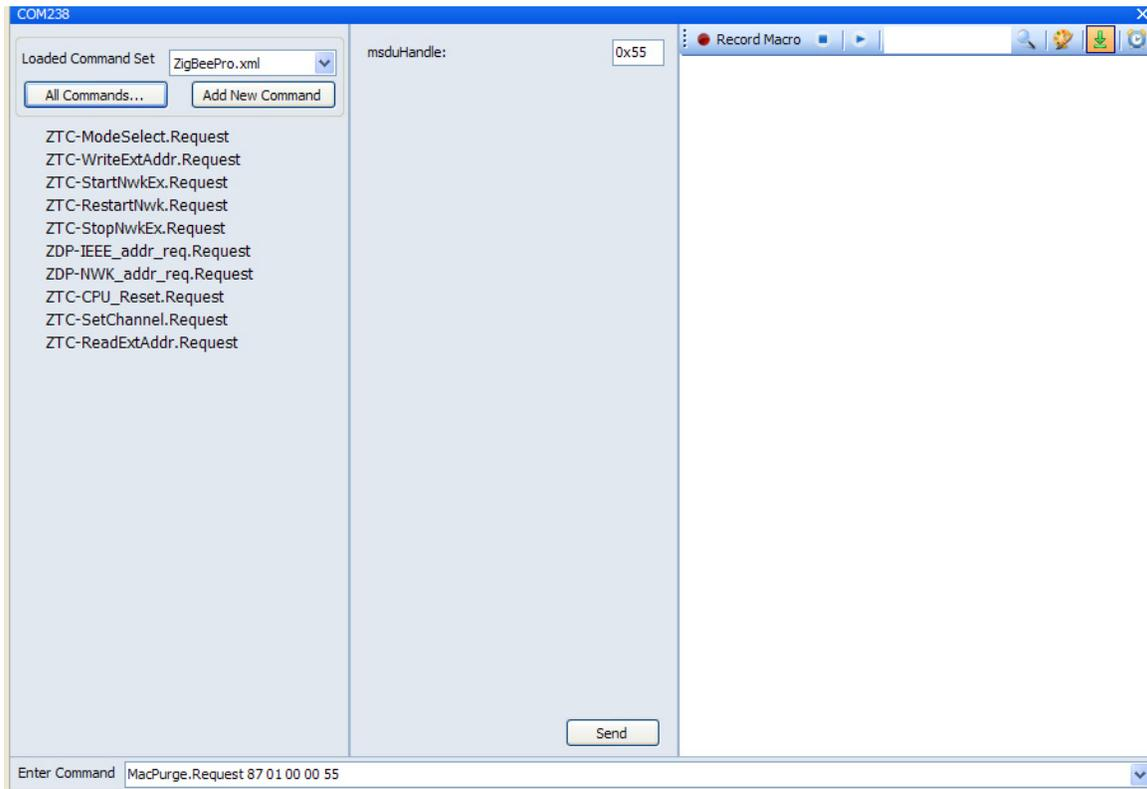

Figure 2-11. Command Console (MACPurge.Request Command)
- As shown in Figure 2-11, the middle column of the Command Console view for the board now displays the parameters of the current command. In this case, the command is `MACPurge.Request` and the parameter is `msduHandle` with a value of `0x55`.